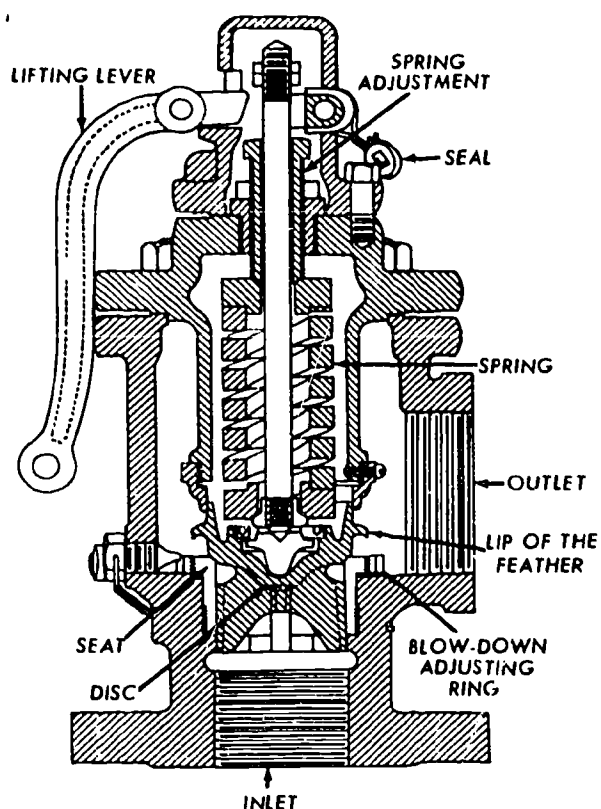

Figure 21. A Spring-Loaded Safety Valve
The safety valve (figure 21) is the most important of boiler fittings. It is designed to open automatically to prevent pressure in the boiler increasing beyond the safe-operating limit. It is installed, in a vertical position, directly to the steam drum. Every boiler must have a safety valve, and there are several different types in use. Each type is designed to open completely (PO) at a specified pressure, and to remain open until a specified pressure drop has occurred. Safety valves must close tightly, without chattering, and must remain tightly closed after seating. Never operate a boiler with a known defective safety valve.